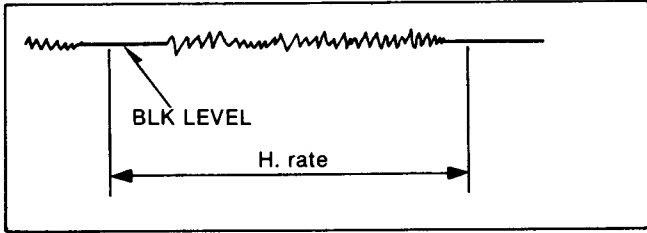

Fig. C9
- (1) Cover the Camera Lens with the Lens Cap.
- (2) Connect the scope to TP2 and trigger with Pin 12 of B302 (H-Rate).
- (3) Adjust the Pedestal Level Control (VR305) so that the signal level equals the BLK level as shown in Fig. C9.
- (1) Aim the camera at the gray scale chart.
- (2) Connect the scope to TP1 and trigger with Pin 12 of B302 (H-Rate).
- (3) Adjust the Camera Unit to obtain 40usec as shown in Fig. C9.
- (4) Adjust the Auto Iris Control (VR301) so that the signal level is 0.30V  $\pm$  0.02Vp-p.